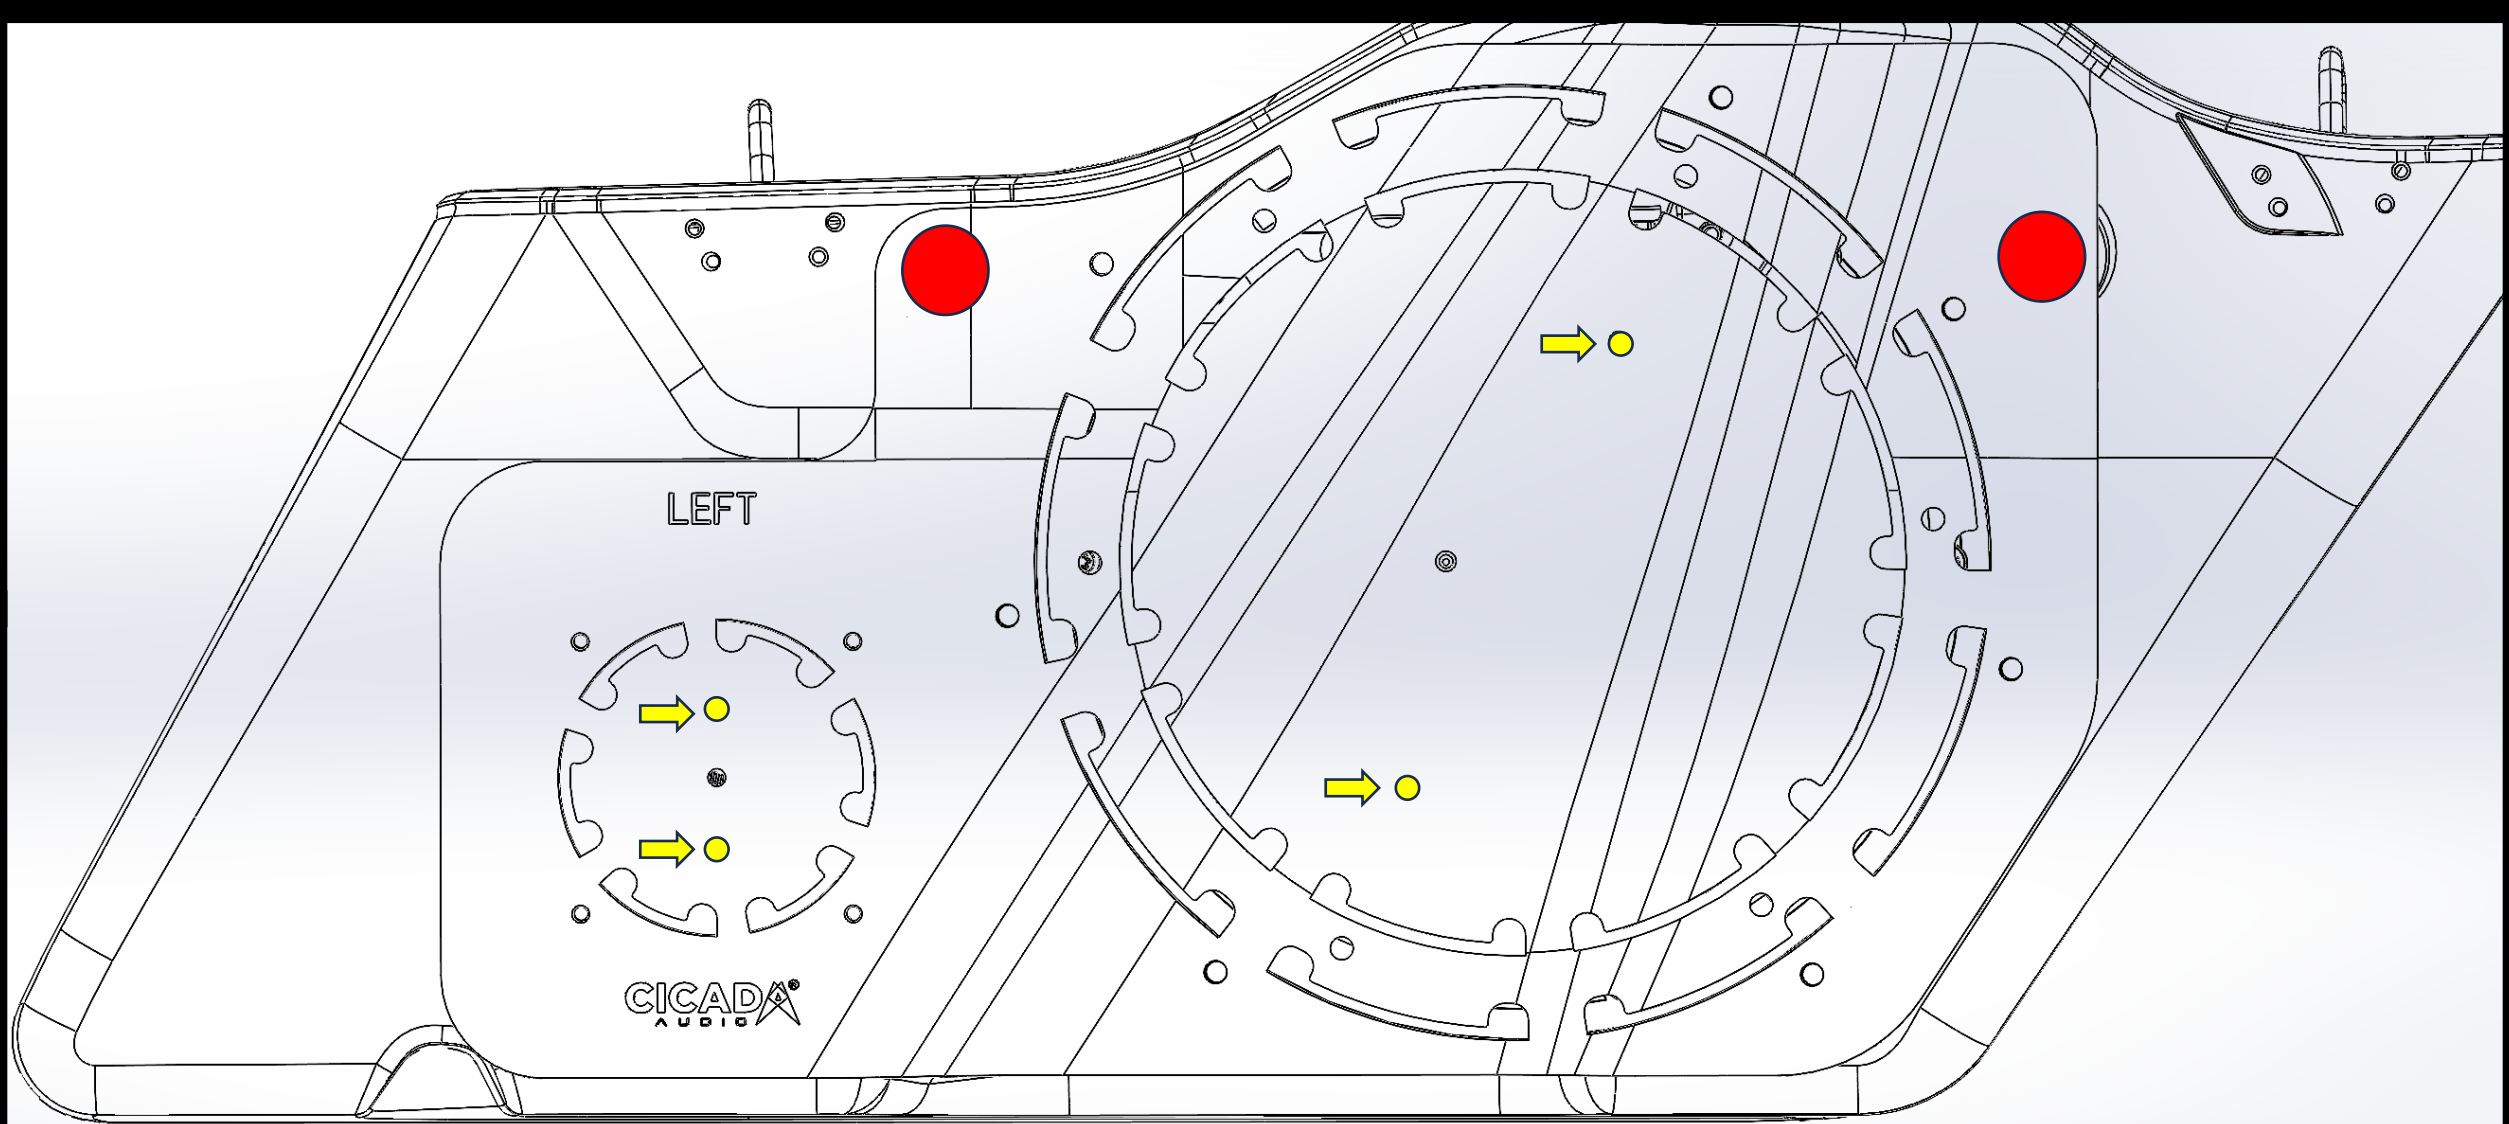

Figure 2
## REFERENCE FIGURE 2
- Drill at the end of each slot marked area [**GREEN**] to insert saw (see Figure 2) with the appropriate size drill bit.